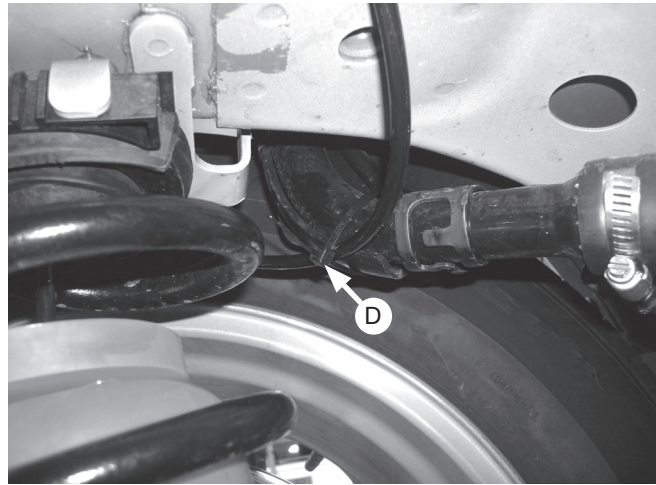

Fig. 8
7. For the driver's (left) side air line installation, route the air line forward, then under and up around the inside of the frame. Route back through the opening in the crossmember back along the wiring harness. Finally, through the slot in the back support (Figs. 8, 9 & 10). Secure with zip ties (D) as shown.